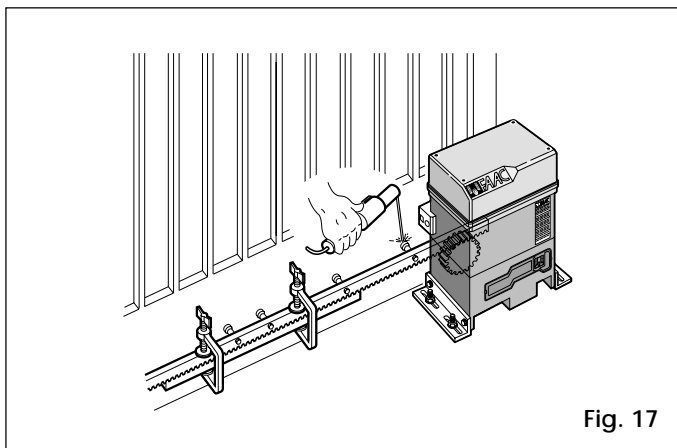

Fig. 17
- 5) Position another rack element next to the first and use a section of rack to set the teeth of the two elements in phase as shown in Fig. 17.
- 5) Place another rack element next to the first and use a section of rack to set the teeth of the two elements in phase as shown in Fig. 17.
rack to set the teeth of the two elements in phase as shown in Fig. 17.